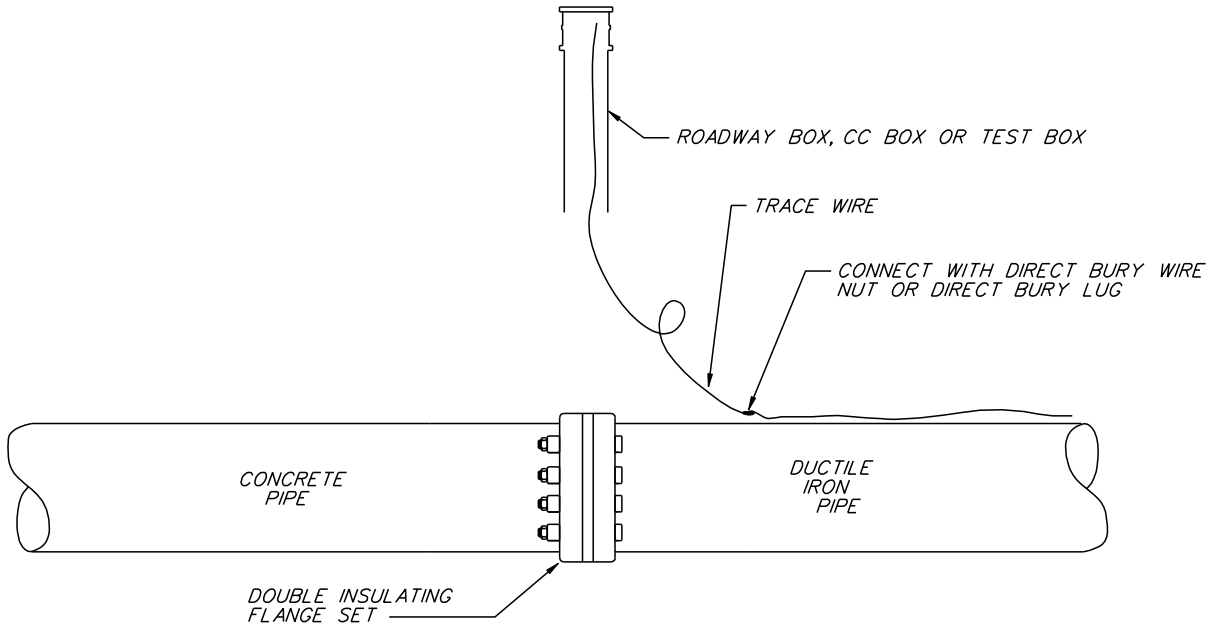

Fig. 2
8. If ductile iron pipe is involved and trace wire is available with existing ductile iron pipe, attach trace wire to existing trace wire per Construction Standard 11.2.2. Install either a roadway box, CC box or test marker. Bring wire up alongside or inside roadway box, CC box or test marker per Construction Standard 11.2.2. See Fig. 2.